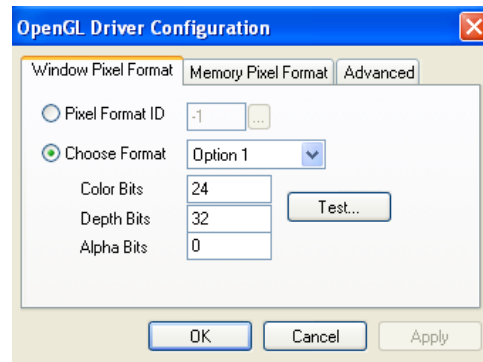

Figure 5-73 OpenGL Driver Configuration dialog box
4. In the *OpenGL Driver Configuration* dialog box (Figure 5-73), select **Pixel Format ID** and enter this number.